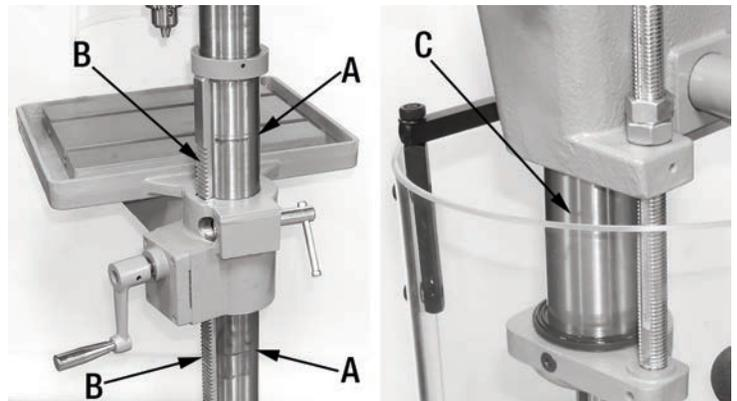

FIGURE 15
- Periodically lubricate all sliding or moving parts including the column (A) Fig.15, rack (B) and the quill (C) (use any all purpose grease, available at any hardware store).